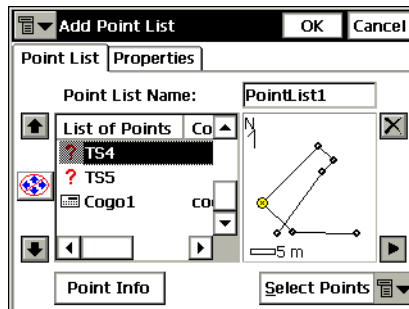

Figure 4-22. Add Point List – Point List Tab
2. In the *Add Point List* screen (Figure 4-22) set the Point List Name and select the points for the list.